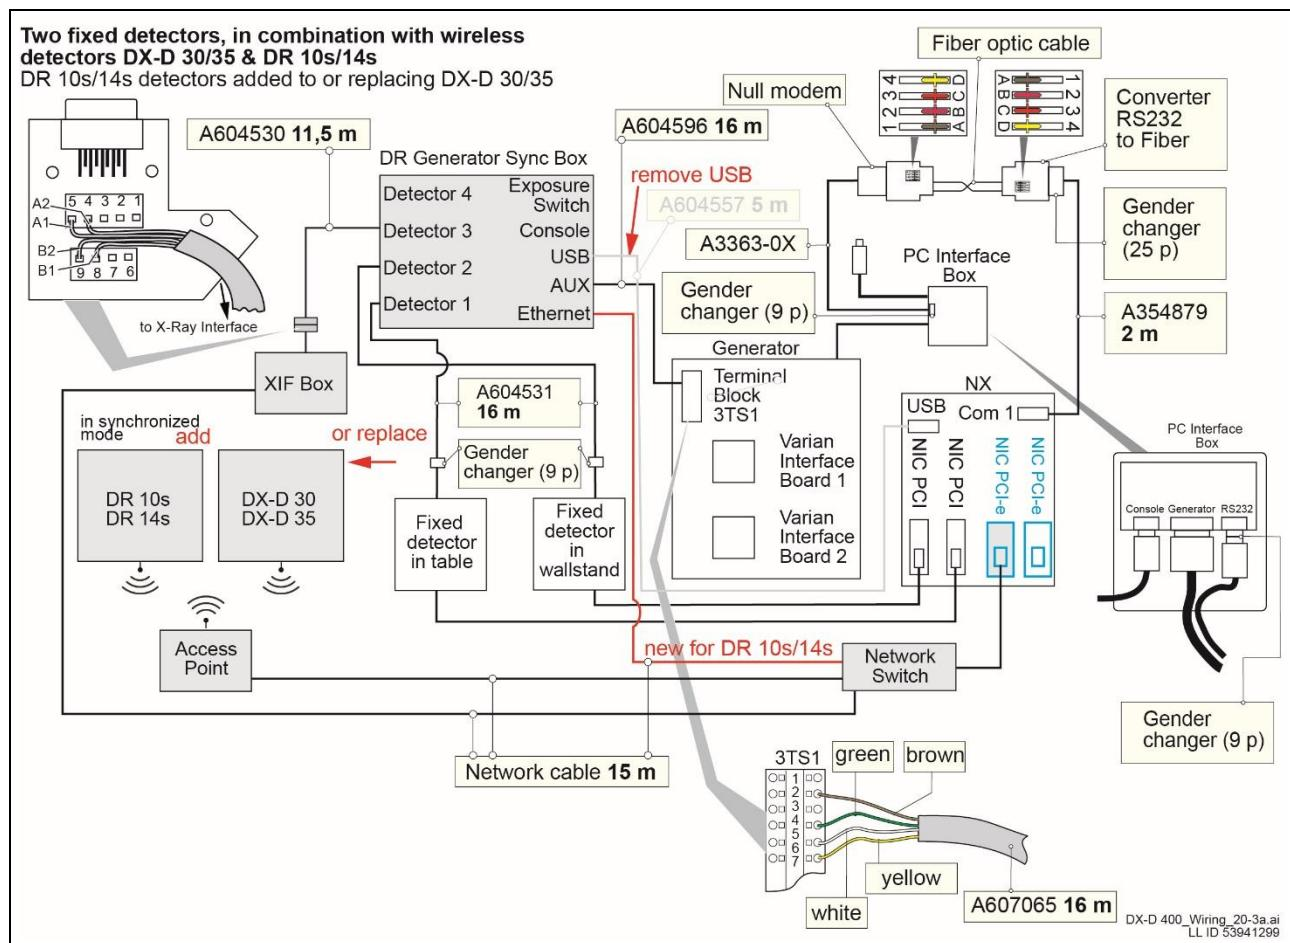

Figure 15: Digital system – DR 10s/14s detector added to installed DX-D 30/35 detectors
- Wiring diagram for digital systems (2 fixed detectors), refer to Figure 15.For installation details see *DR 10s / DR 14s - Service Manual*, Document ID 53659727 and *DR Detector - basic configuration guide*, Document ID 68310512.
- (8) Configure the NX.